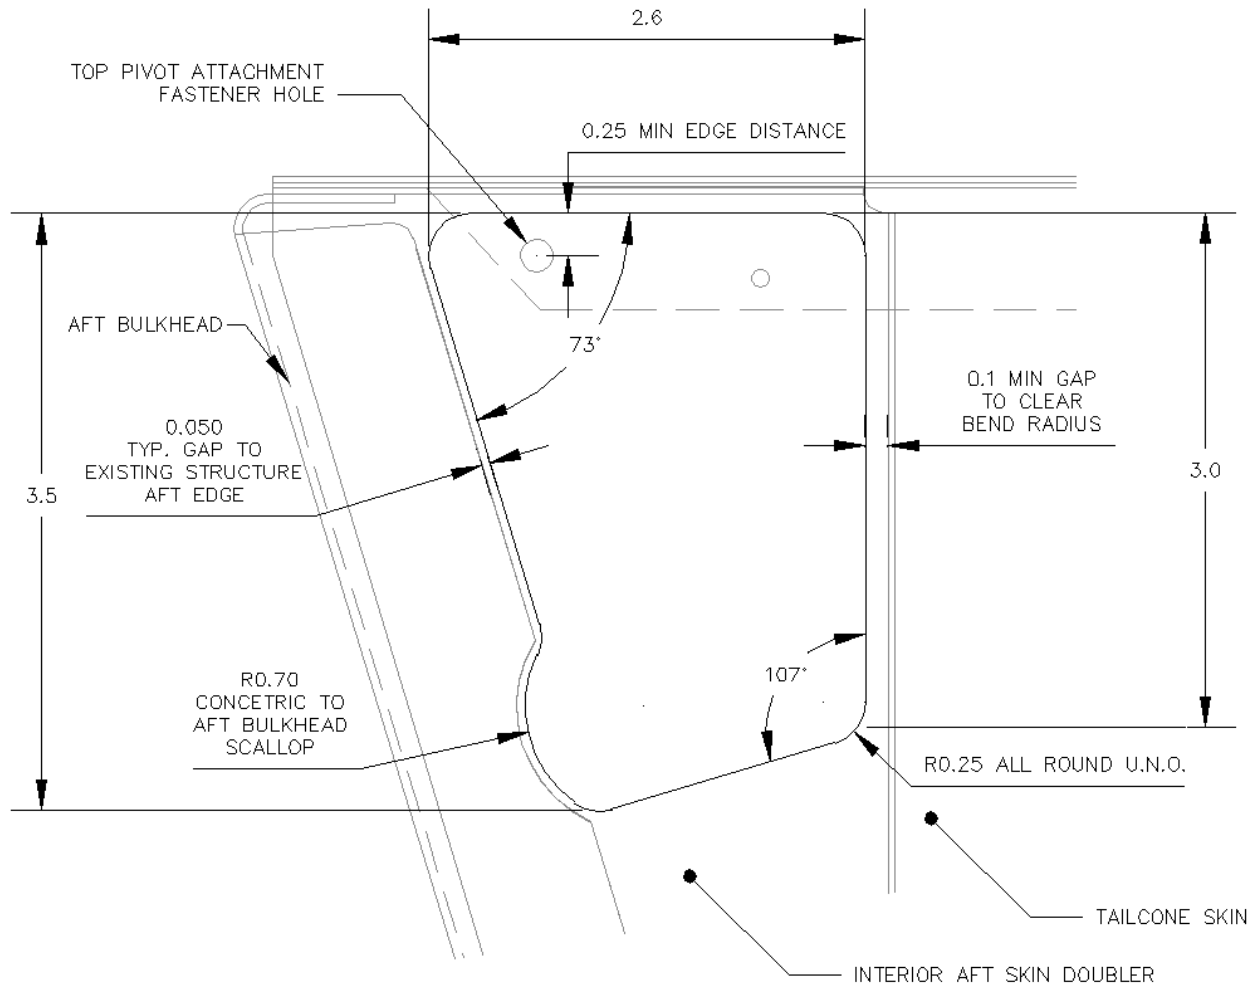

Figure 12 – Shim Dimensions
- Fabricate a shim from 0.050" thick 2024-T3 aluminium per SAE-AMS-QQ-A-250/5 to the dimensions in Figure 12. Deburr or break all sharp edges.
- Temporarily locate shim in the position shown in Figure 12 and match drill fastener hole locations and diameters from Tailcone Skins.